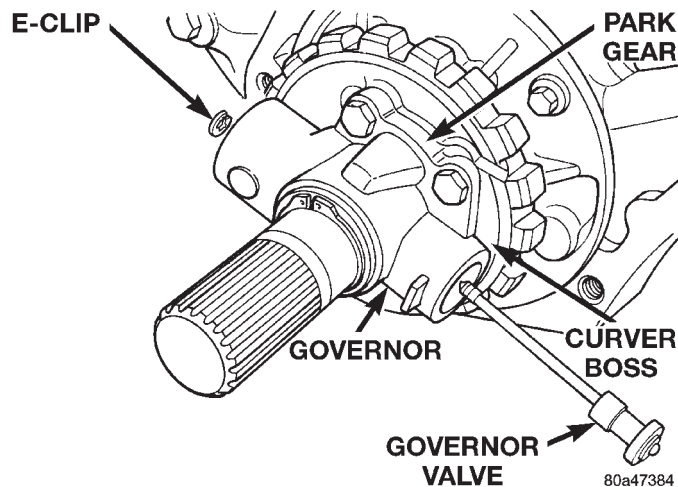

Fig. 31 Governor Valve
- (1) Hoist and support vehicle on safety stands.
- (2) Mark propeller shaft and axle yoke for assembly reference. Then disconnect and remove shaft.
- (3) Disconnect parking brake cable at equalizer and disconnect exhaust components as necessary.
- (4) Support transmission on a suitable lifting device.
- (5) Remove skid plate and rear transmission mount.
- (6) Remove extension housing.
- (7) Loosen but do not remove bolts that hold governor body to park gear.
- (8) Rotate transmission output shaft until governor weight assembly is accessible.
- (9) Remove E-clip at end of governor valve shaft (Fig. 31).
- (10) Remove governor valve and shaft from governor body (Fig. 31).
- (6) Insert governor valve and shaft through governor and install E-clip (Fig. 31).
- (7) Install extension housing and gasket on transmission. Tighten housing bolts to 32 N·m (24 ft. lbs.).
- (8) Install rear transmission mount and skid plate.
- (9) Install speed sensor and speedometer components and connect speed sensor wires.
- (10) Connect exhaust components and brake cable, if removed.
- (11) Install propeller shaft.
- (12) Remove supports and lower vehicle.
- (13) Check transmission fluid level. Add fluid if necessary.